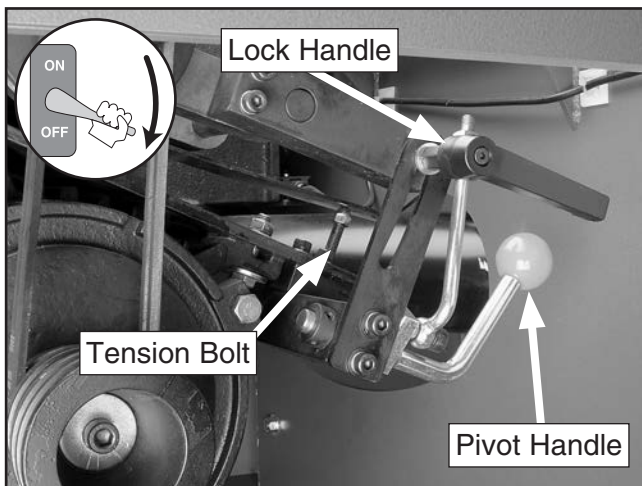

Figure 132. Main blade belt tension controls.
4. Loosen the lock handle (**Figure 132**), rotate the pivot handle down 180°, then tighten the lock handle.